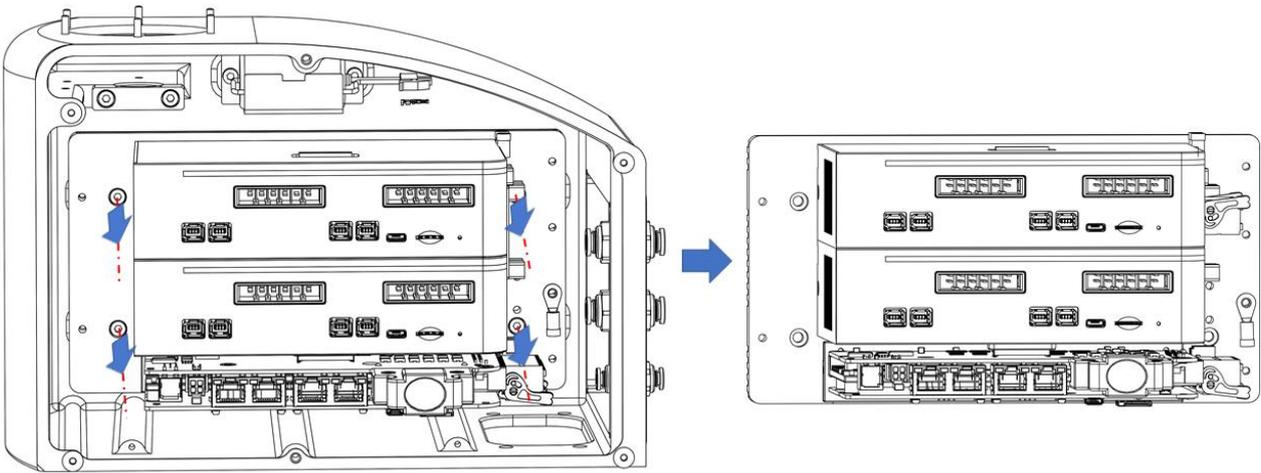

Figure 5-4 Removal of fastening screws from controller fixing part
- Step 3** Loosen the screws on the control card mounting part and remove the controller from the control cabinet as shown in Figure 5-4.